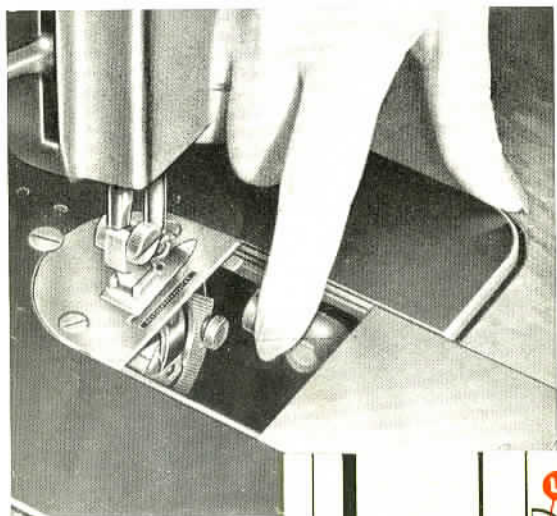

Fig. 20
- 1 Raise feeder disconnecting lever as indicated at Fig. 20.